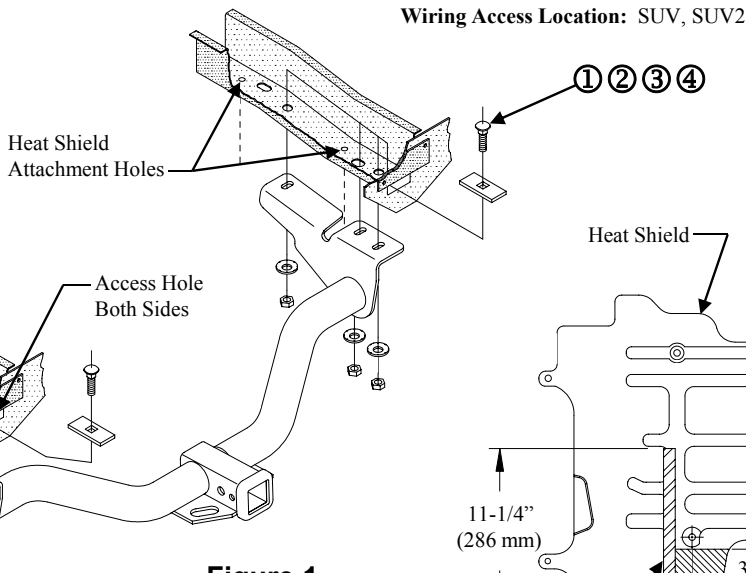

Figure 1
①	Qty. (6)	Carriage Bolt 7/16-14 x 1/3/4 GR5	④	Qty. (6)	Hex Nut 7/16-14
②	Qty. (6)	Spacer Block 1/4" x 1 x 3	⑤	Qty. (1)	Hex Bolt M6 x 1.00 x 20mm CL8.8
③	Qty. (6)	Conical Toothed Washer 7/16"	⑥	Qty. (1)	Flat Washer 1/4"
- Fishwire carriage bolts and blocks thru access hole in end of frame as shown in Figure 1.